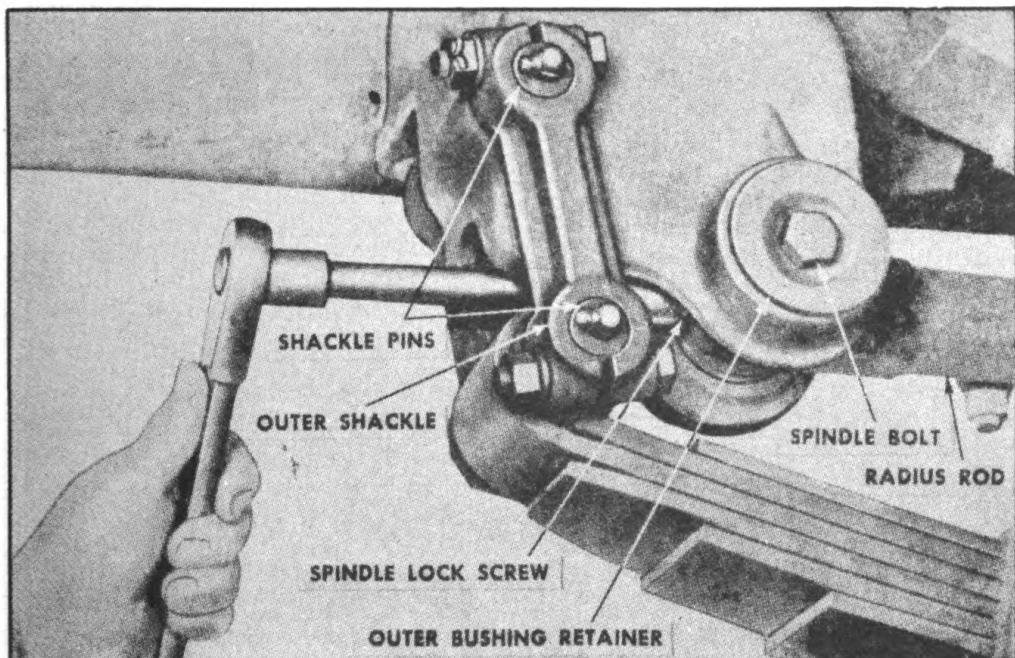

FIGURE 58. REMOVING SPINDLE LOCK SCREW
1. **REMOVAL** (Figure 58).—This unit is equipped with two radius rods; one adjustable and the other fixed. Servicing and removal procedure for each is the same.
2. **REPLACEMENT** (Figure 58).—a. NOTE: One end of radius rod has spindle lock screw hole in the end. The other end has lock screw hole at the bottom. Place radius rod in position with the end hole to front in the spring hanger. The other end, which fits into bracket at axle, should be down. Axle end of radius rod is more difficult to connect, therefore it should be coupled first.